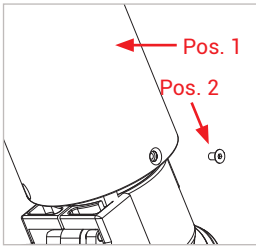

Figure 6
- ▶ Unscrew the three countersunk screws (Pos. 2) from the impact protection sleeve (Pos. 1) using an hexagonal screwdriver A/F2 (Figure 6).